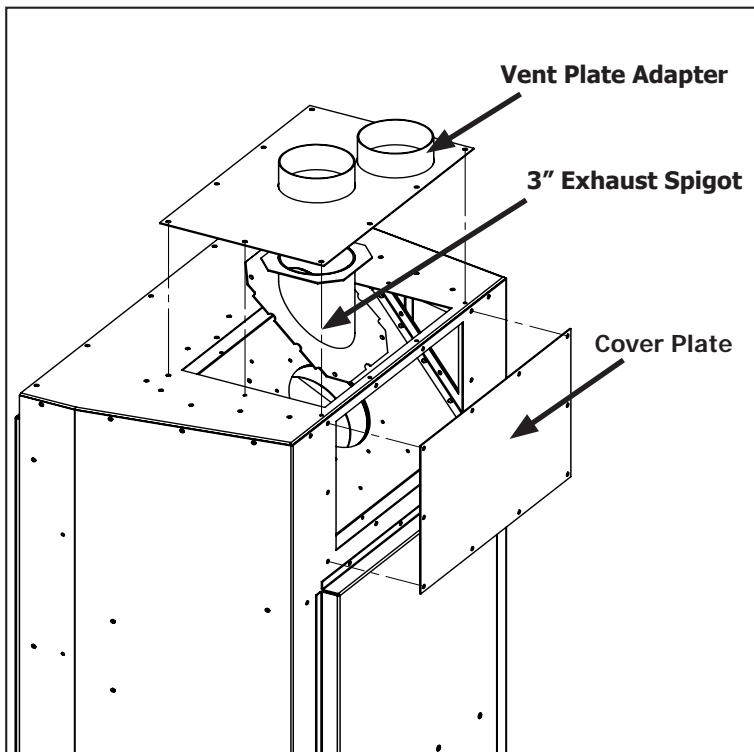
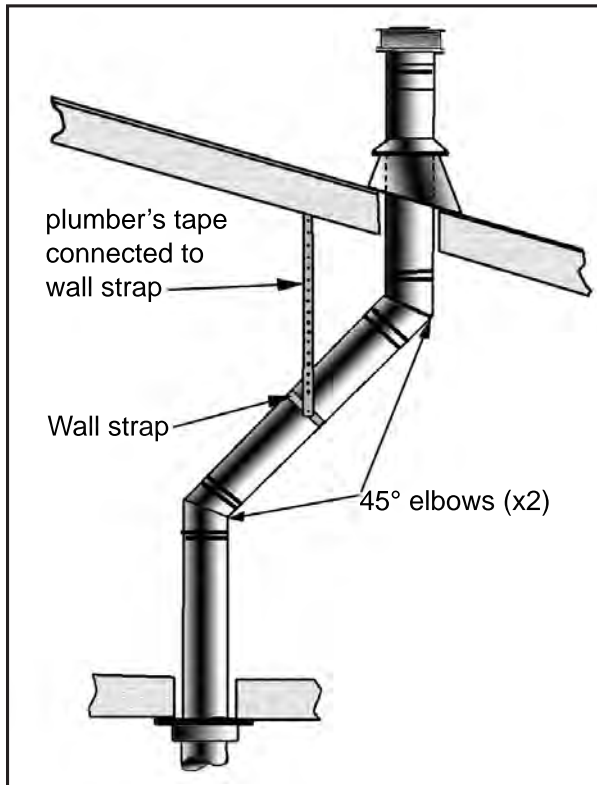

Figure 45: Installation of Co-Linear Vent Kit
Figure 50. Use of Wall Straps.
- (1) If an offset is necessary in the attic to avoid obstructions, it is important to support the vent pipe every 3 feet (914 mm), to avoid excessive stress on the elbows, and possible separation. Wall straps are available for this purpose (see Figure 50).
- (2) When ever possible, use 45° degree elbows instead of 90° degree elbows. The 45° degree elbow offers less restriction to the flow of flue gases and intake air.
- (3) For multi story installations; a ceiling firestop is required at the second floor, and any subsequent floors (see Figure 45). The opening should be framed to 10" (254 mm) x 10" (254 mm) inside dimensions, in the same manner as shown in Figure 33.
- (4) Any occupied areas above the first floor, including